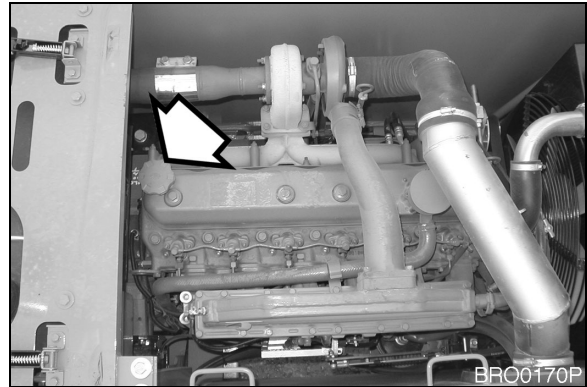

Figure 49
4. Refill the engine with the correct oil through the oil fill port (Figure 49). Refer to the Lubrication Table of this manual for the recommended oil for the operating conditions.